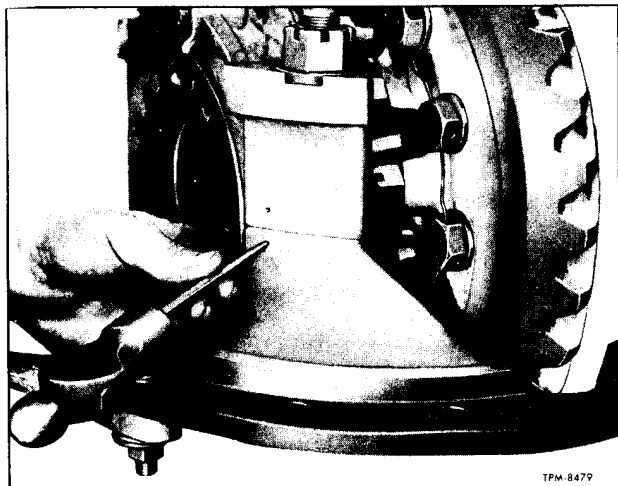

Figure 3—Bearing Cap Alignment Marks
1. Remove lock wire from adjusting ring lock retaining bolts (7), then remove locks (6).
2. Remove wires and nuts from differential side bearing cap studs. Make certain that bearing caps (45) and carrier are marked (fig. 3) before removal, then remove side bearing caps (45). Remove side bearing adjusting rings (8). Lift differential assembly with cups (44) from carrier. Remove bearing cups (44) from bearings.